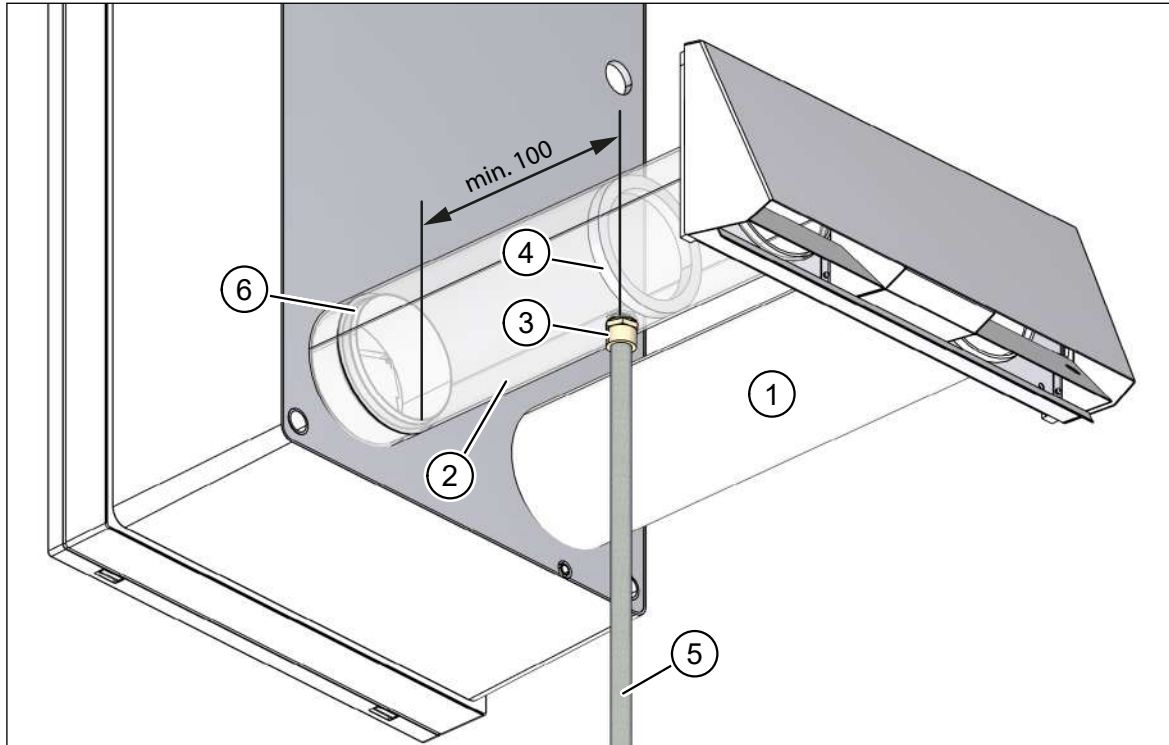

Fig. 20: Condensate drain on the exhaust air pipe, dimension in millimetres
- Outdoor air pipe, DN 100, 0.5 m (item 1 in Fig. 20)
- Exhaust air pipe, DN 100, 0.5 m (item 2 in Fig. 20), with 1/2" male thread connection (item 3 in Fig. 20) and barrier (item 4 in Fig. 20) for retaining the condensate.
- In cold regions, protect the condensate drain pipe (item 5 in Fig. 20) against frost, e.g. by running it behind the facade insulation.
- Maintain a minimum gap of 100 mm between condensate drain pipe (item 5 in Fig. 20) and exhaust air connector (item 6 in Fig. 20).